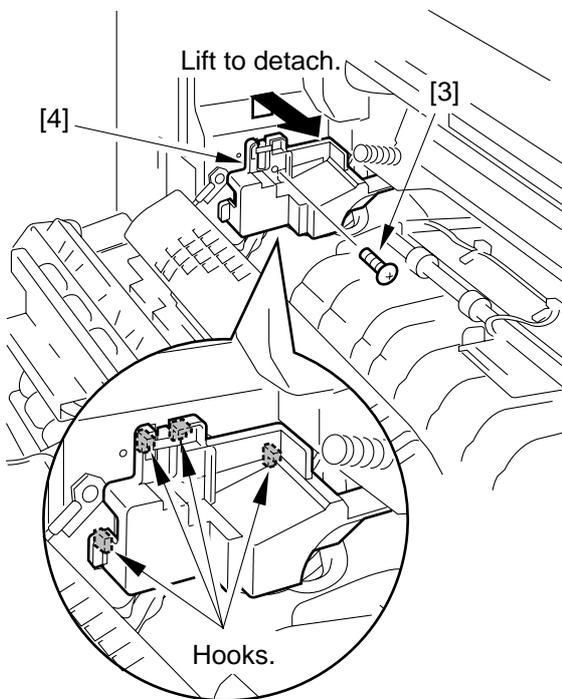

Figure 9-202
- 3) Remove the screw [3] (Figure 9-202).